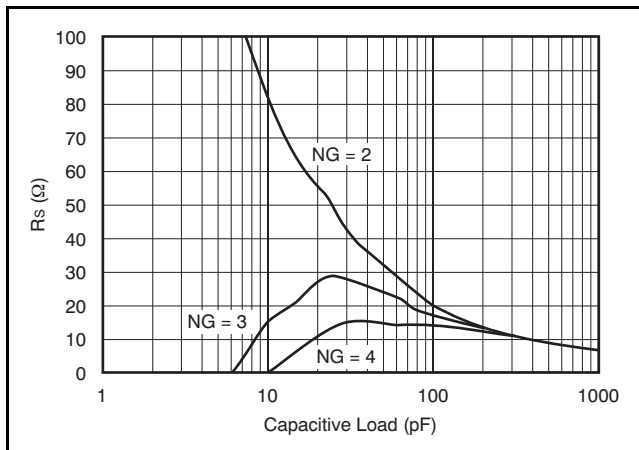

Figure 49. Required  $R_S$  vs Noise Gain
This gain of +2 circuit includes a noise gain tuning resistor across the two inputs to increase the noise gain, increasing the unloaded phase margin for the op amp. Although this technique will reduce the required  $R_S$  resistor for a given capacitive load, it does increase the noise at the output. It also will decrease the loop gain, slightly decreasing the distortion performance. If, however, the dominant distortion mechanism arises from a high  $R_S$  value, significant dynamic range improvement can be achieved using this technique. Figure 49 shows the required  $R_S$  versus  $C_{LOAD}$  parametric on noise gain using this technique. This is the circuit of Figure 48 with  $R_{NG}$  adjusted to increase the noise gain (increasing the phase margin) then sweeping  $C_{LOAD}$  and finding the required  $R_S$  to get a flat frequency response. This plot also gives the required  $R_S$  versus  $C_{LOAD}$  for the OPA2690 operated at higher signal gains without  $R_{NG}$ .
- d. **Connections to other wideband devices** on the board may be made with short, direct traces or through onboard transmission lines. For short connections, consider the trace and the input to the next device as a lumped capacitive load. Relatively wide traces (50mils or 1,27mm to 100mils or 2,54mm) should be used, preferably with ground and power planes opened up around them. Estimate the total capacitive load and set  $R_S$  from the plot of Recommended  $R_S$  vs Capacitive Load (Figure 15 for  $\pm 5V$  and Figure 30 for +5V). Low parasitic capacitive loads (< 3pF) may not need an  $R_S$  because the OPA2690 is nominally compensated to operate with a 2pF parasitic load. Higher parasitic capacitive loads without an  $R_S$  are allowed as the signal gain increases (increasing the unloaded phase margin; see Figure 49). If a long trace is required, and the 6dB signal loss intrinsic to a doubly-terminated transmission line is acceptable, implement a matched impedance transmission line using microstrip or stripline techniques (consult an ECL design handbook for microstrip and stripline layout techniques). A 50 $\Omega$  environment is normally not necessary on board, and in fact, a higher impedance environment will improve distortion as shown in the distortion versus load plots (Figure 7 for the  $\pm 5v$  and Figure 32 for the +5V). With a characteristic board trace impedance defined (based on board material and trace dimensions), a matching series resistor into the trace from the output of the OPA2690 is used as well as a terminating shunt resistor at the input of the destination device. Remember also that the terminating impedance will be the parallel combination of the shunt resistor and the input impedance of the destination device; this total effective impedance should be set to match the trace impedance. The high output voltage and current capability of the OPA2690 allows multiple destination devices to be handled as separate transmission lines, each with their own series and shunt terminations. If